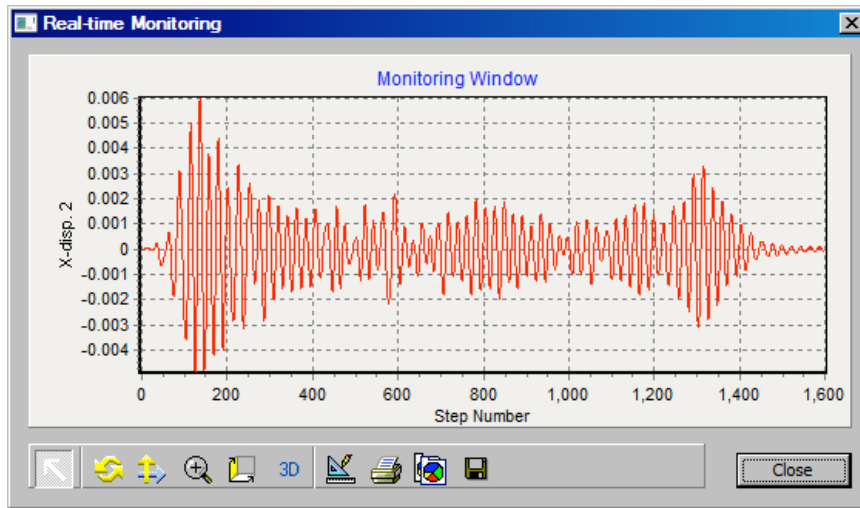

Figure 14: Displacement Time History Window for Local Test after Simulation.
- At the end of the simulation, the two NEES-SAM Real-time Monitoring windows now look like Figures 14 and 15.